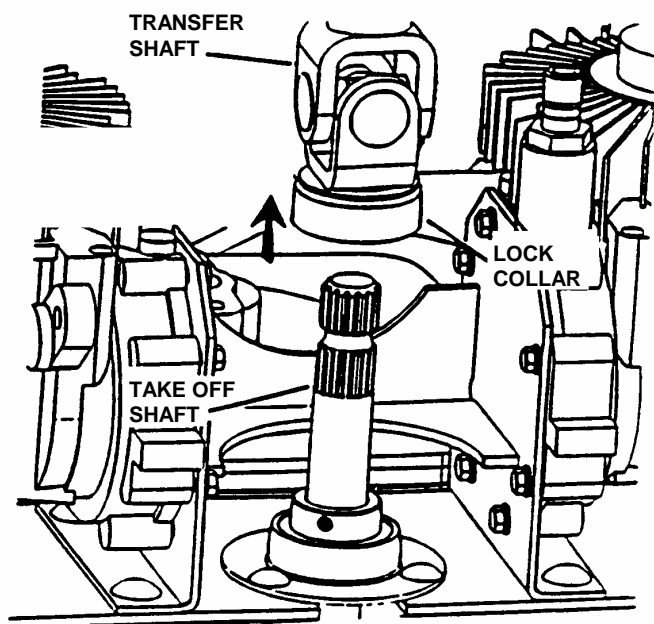

FIGURE 4.11
5. Pull lock collar back and slide power transfer shaft away from power take off shaft (located on power unit below hydro pumps). See Figure 4.11.
Engage parking brake. Turn engine "OFF" and remove key. The power transfer shaft connects the power unit to the mower deck. The shaft is telescoping for easy removal. Slide locking collar back toward mower deck and shaft will slide off. See Figure 4.11.